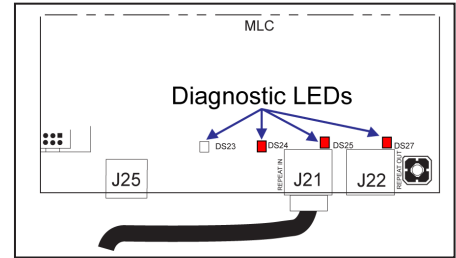
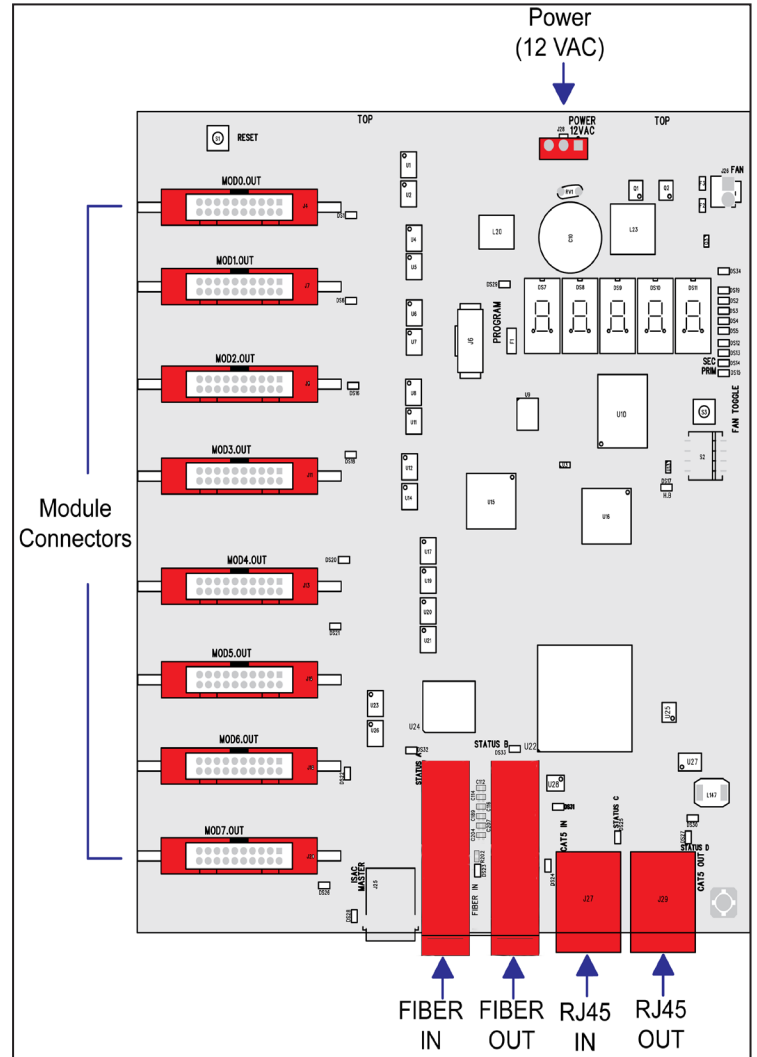

Figure 11: MLC Diagnostics
Figure 13: Multi-Line Controller (MLC)
The Multi-Line Controller (MLC) unit contains four red diagnostic LEDs. When properly connected to the primary display, the LED labeled DS23 (left side) will be off and the other LEDs will be on, as shown in **Figure 11**.
6. To install the new MLC, move the unit into place and replace the six nuts holding it to the display back. Reconnect input and ribbon cables. Turn on power, observing the boot-up sequence. Note that the LEDs to the right of the fiber jacks are on; DS23 to the left of the fiber cable should be off. Refer to **Figure 11** and **Figure 13** for more information.